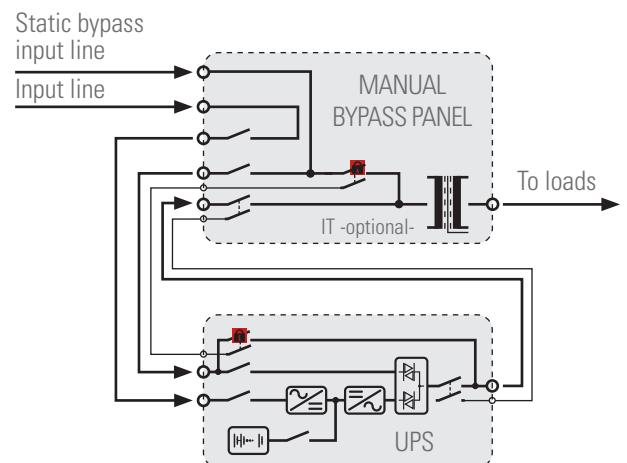

Fig. 2. Connection of the manual bypass panel with separate static bypass line to the UPS.
- With a separate static bypass line (Fig. 2). These panels have separate terminal blocks for the input and static bypass networks, which allows both networks to be supplied from different sources, such as: two companies, a company and a generator set, etc.
- In Fig. 2 and 3, the galvanic isolation transformer is shown at the output, as, with the exception of design constraints or particular specifications, it is the most recommended arrangement in terms of taking best advantage of its intrinsic characteristics, performance and price.